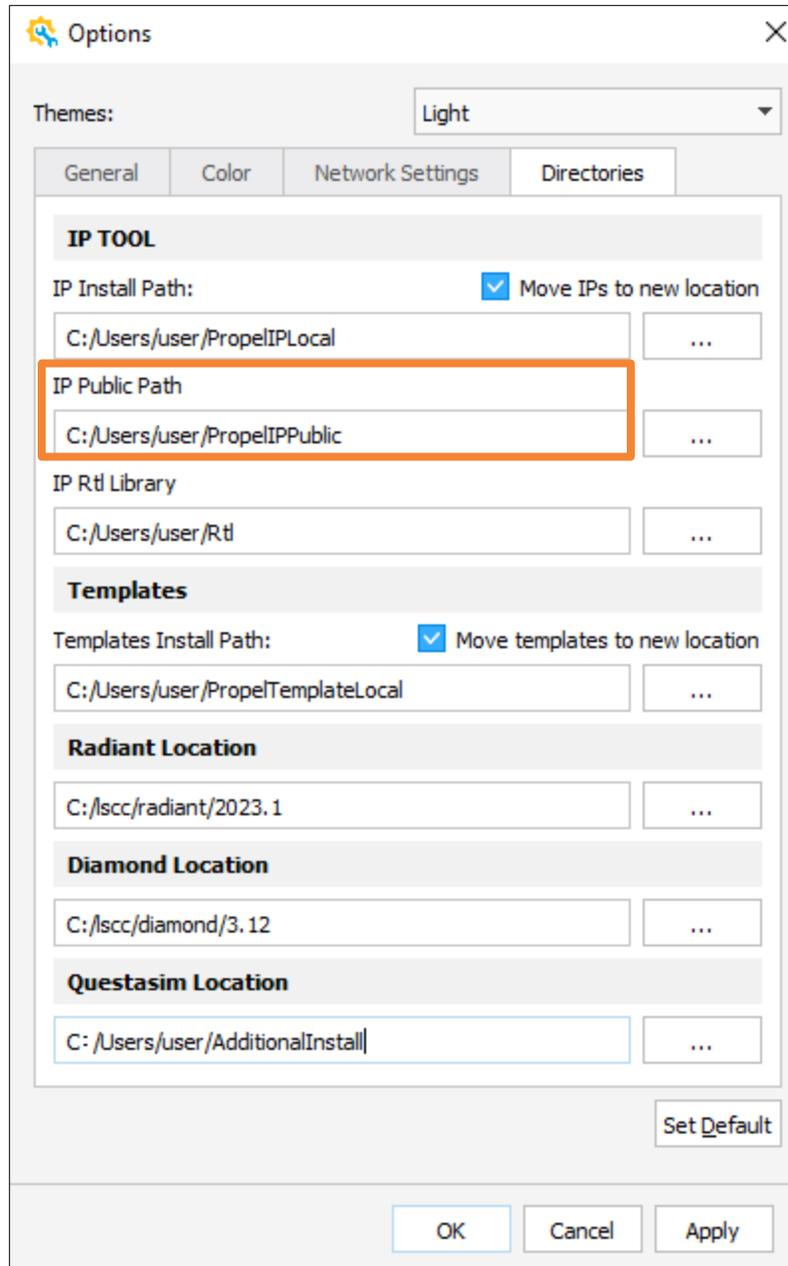

Figure 2.97. IP Public Path
- IP Public Path (Figure 2.97):